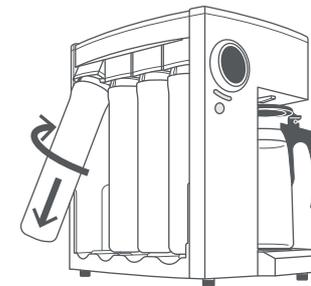

Figure 2
3. Lift up the filter to a 45 degree position and twist in clockwise direction, then pull out the expired filter (Figure 2).